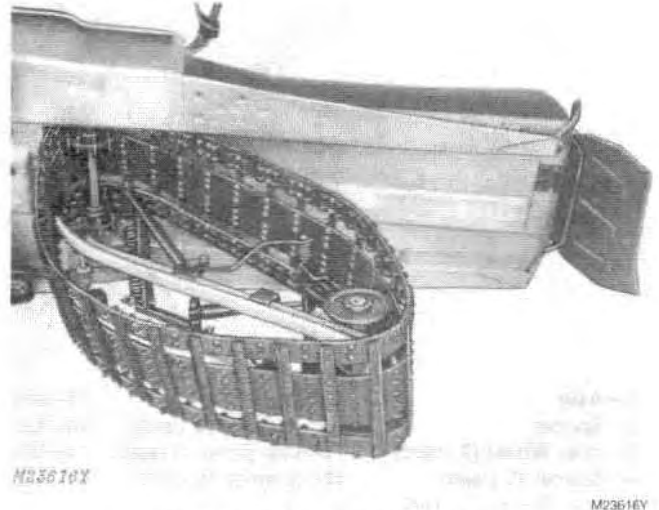

Fig. 2-Removing Slide Suspension
2. Turn the snowmobile on its right side and remove the suspension, Fig. 2.